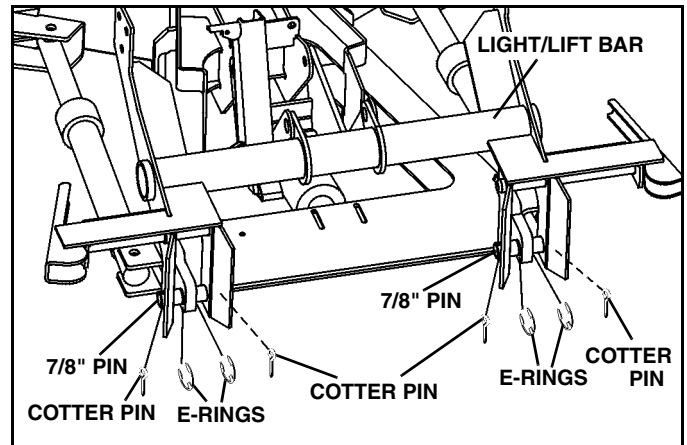

Figure 1-3
6. Place light/lift bar over A-frame lugs. (See Figure 1-3)
7. Insert the 7/8" pin from mounting parts bag through the light/lift bar and A-frame lug. (See Figure 1-3)
8. Insert the E-rings to hold center A-Frame lug. (See Figure 1-3). Insert cotter pins on each end of pin to hold pin in place. Bend cotter pins (See Figure 1-3) to ensure that pins do not work loose.